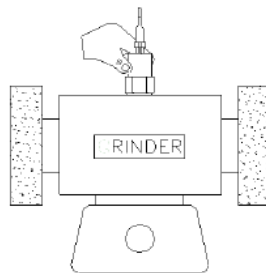

Fig. 2
4. If the surface material of measuring article is not the ferrous material, hold the vibration sensor by hand & touch the sensor to the surface of the measuring article, refer the Fig. 2